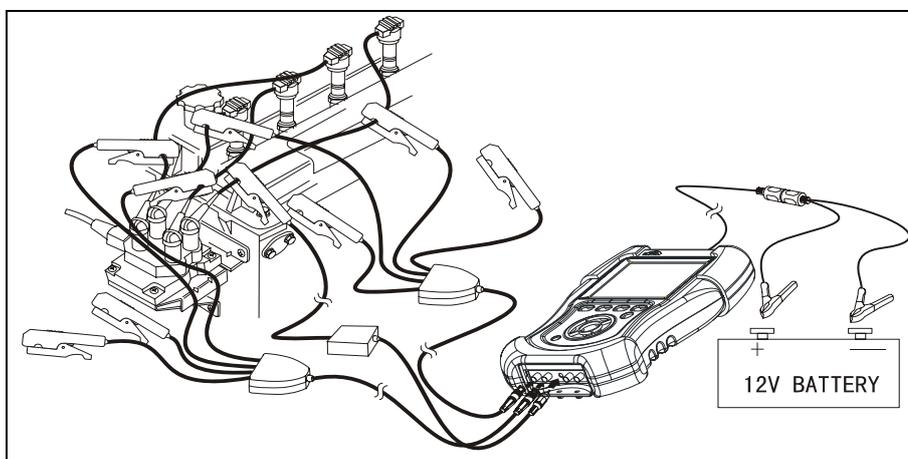

Fig. 5-4
Double end ignition: Take out inductive pickup and capacitive pickup from packing case. Connect one end of inductive pickup to CH5/(CH3) port, use signal clip to clip high voltage line of one cylinder of engine. Please check that there is "This side faces to spark plug" on the signal clip, do not clip reversely; check polarity of ignition coil, if one side is positive, the other side is sure to be negative. Polarity of the same side is the same, share the same capacitive pickup. Refer to Fig.5-4 for connecting method.
1. Connect equipment according to Fig.5-4, switch on power supply switch of KT600;